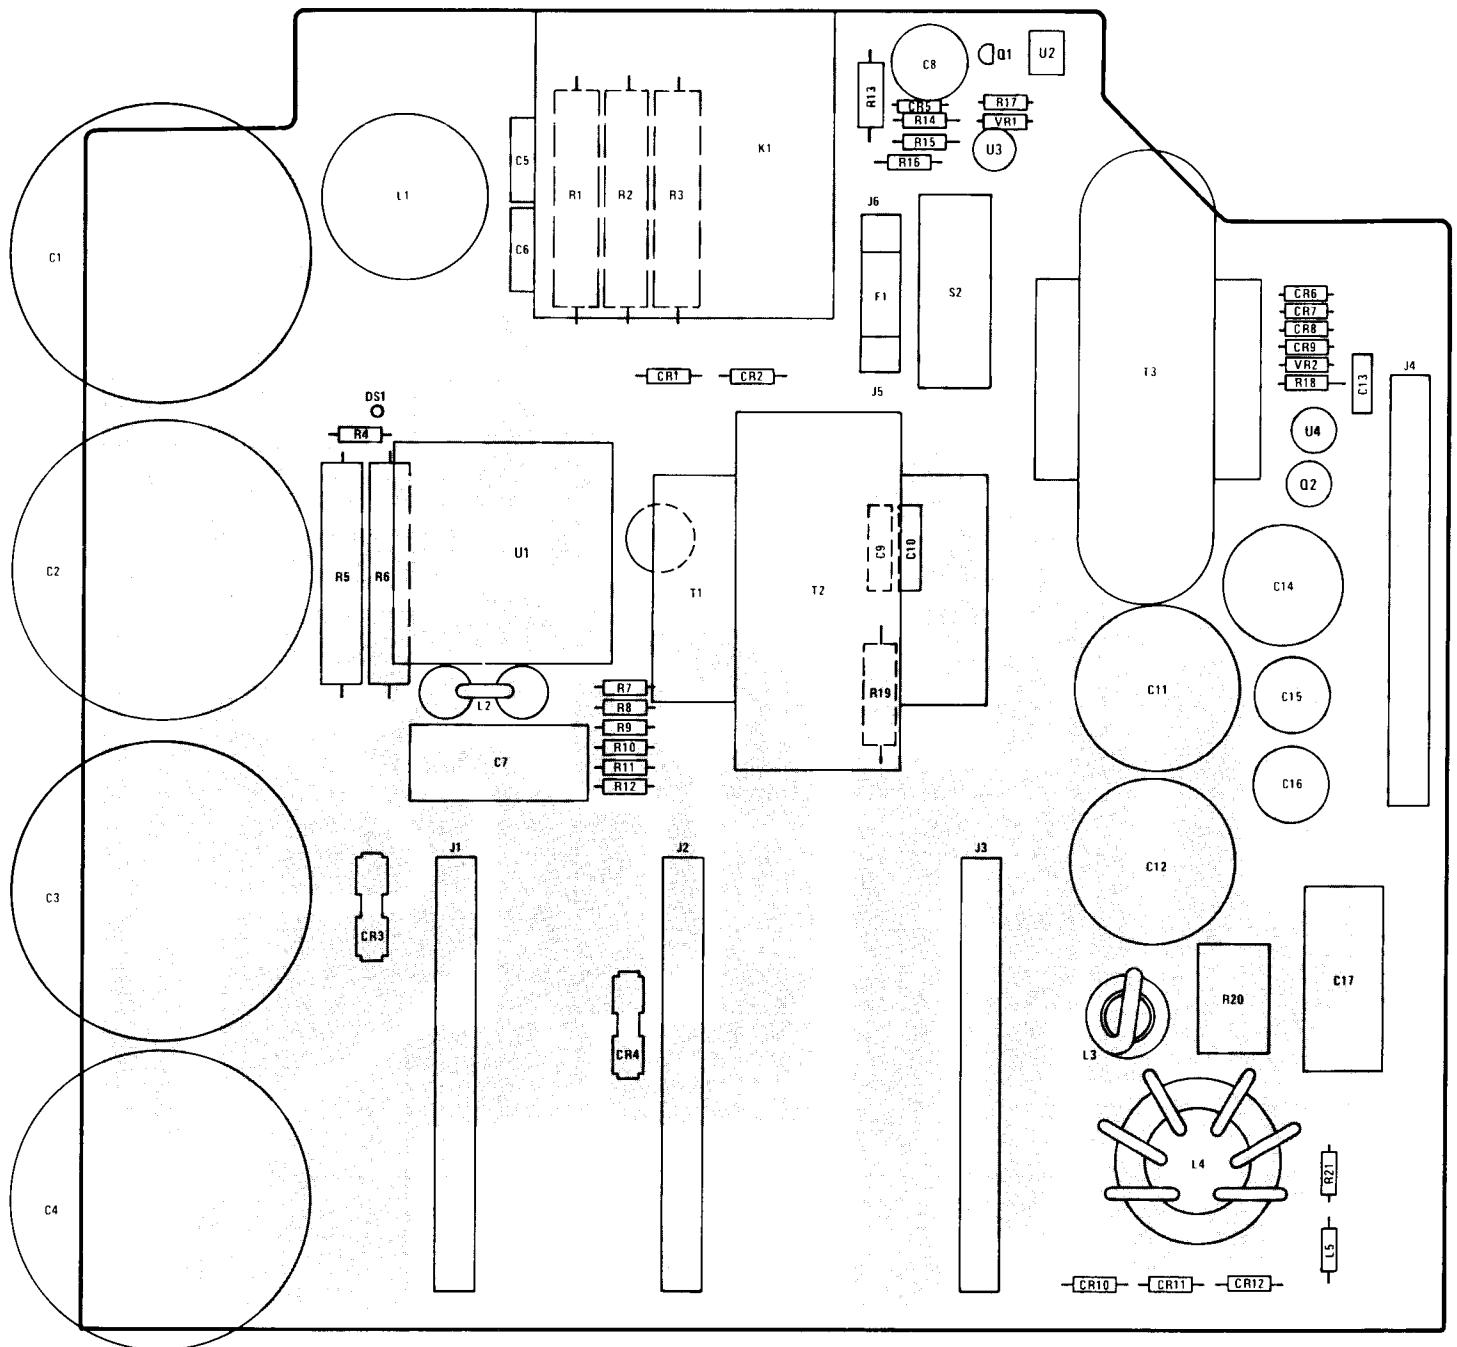

Figure 7-2. Main Board (A1) Component Location.
- b. Component location diagrams (Figure 7-2 through 7-6), showing the physical location and reference designators of almost all electrical parts. (Front-panel-mounted components are identified by lettering on the board and front panel.)